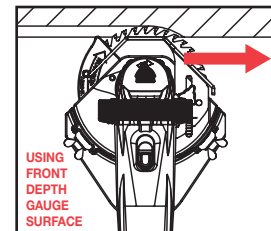

Figure 5
- The depth gauge controls depth of cut most accurately using the front depth gauge surface (Figures 5 & 6).